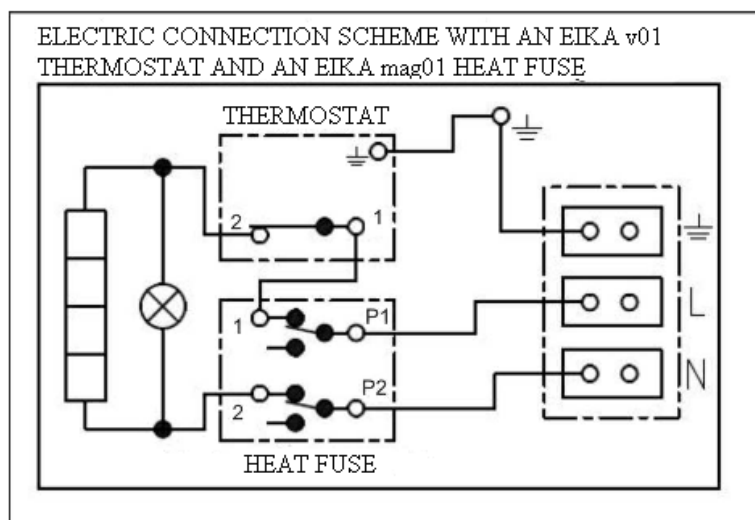

Figure 6
- The electric wiring scheme is attached to the water heater on the side of the electric installation guard (Figure 6).